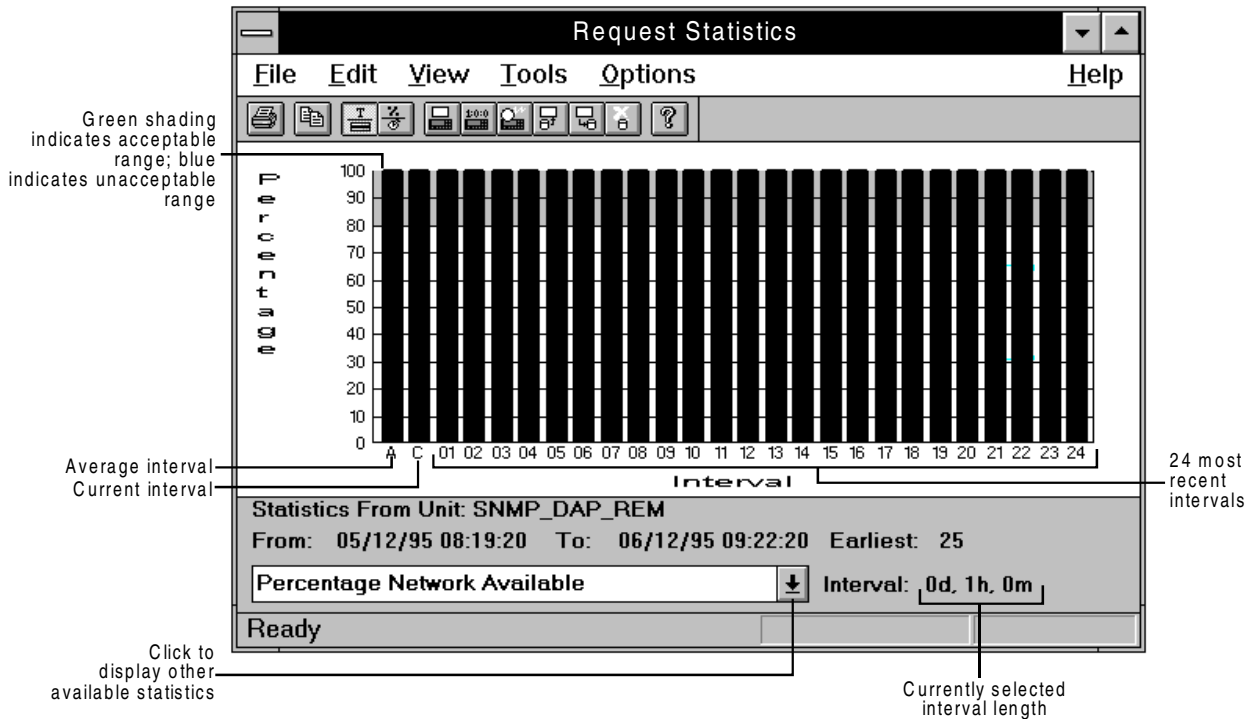

Figure 5-4. Statistics Display – Graphic View
- If the Graphical option in the View menu is enabled, a graphic bar chart of the unit's statistics appears. (See Figure 5-4.) The green area to the left of each bar indicates the user-defined acceptable range for the statistics. The blue area indicates the unacceptable range. The column labeled A represents the average value of all intervals. The column labeled C represents the current incomplete interval.